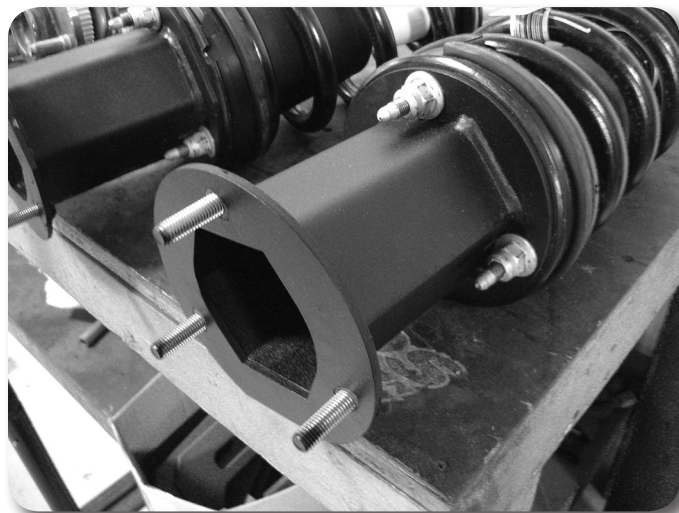

Figure 30
52. Install the provided strut spacers on the struts with provided nuts and washers. The spacers will only install one way. Torque the hardware to 30 ft-lbs. **Figure 30**